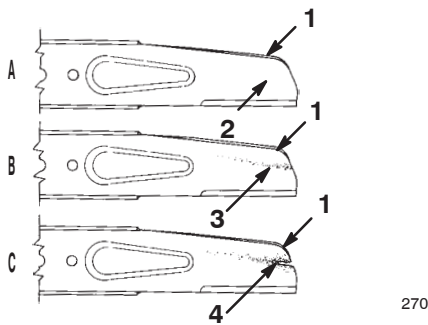

**Figure 18**
4. Tip the lawn mower onto its **left** side (air cleaner up) (Fig. 18).
2. Remove the blade bolt, the lockwasher, the accelerator, and the blade (Fig. 18).